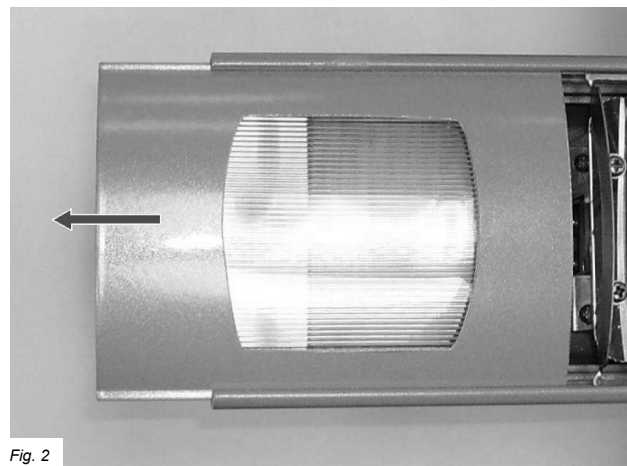

Fig. 2
4. Slide out the side cover(s) to reveal the bulb(s) as shown in Fig. 2.